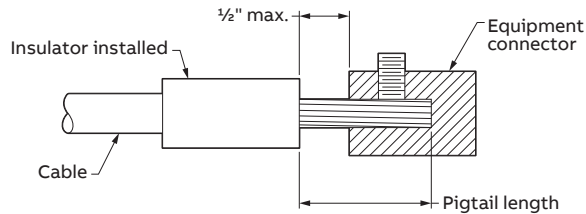

Figure 1
- b. Check the copper pigtail length (with insulator installed) against the equipment connector wire barrel to be sure sufficient contact will be made (Figure 1).